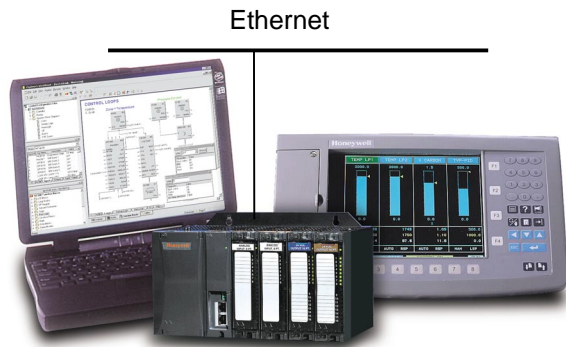

Figure 2: HC900 Hybrid Controller, Model 1042 OI and Hybrid Control Designer Software
Overview. The HC900 as shown in Figure 2 consists of a panel-mounted controller, available in 3 rack sizes along with remote I/O, connected to a dedicated Operator Interface (OI).